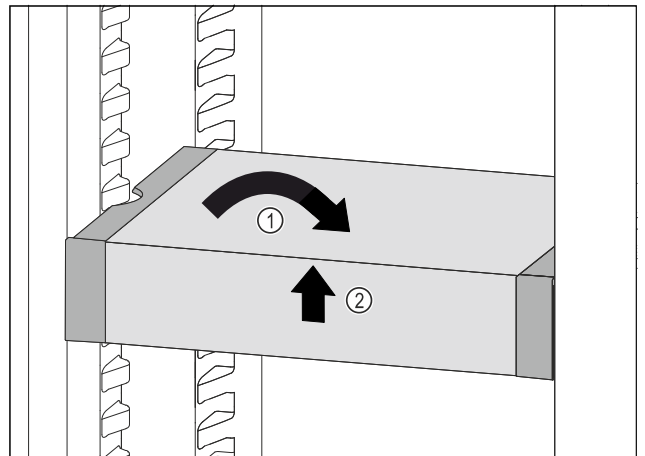

Fig. 54
- ▶ Set VarioSafe straight. Fig. 54 (1)
- ▶ Lift VarioSafe at the front. Fig. 54 (2)